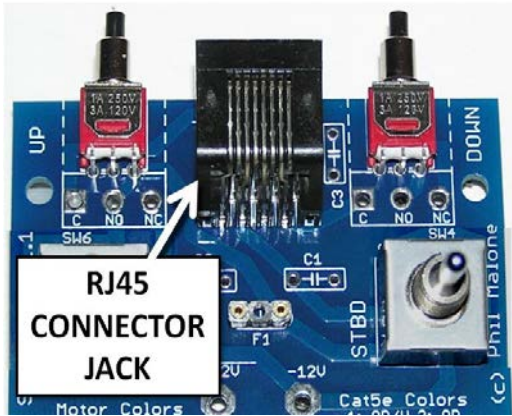

Figure 3.3-5: RJ45 Connector Jack Installed at Location "J1"
- Check the small pins on the bottom of the **RJ45 connector jack** to make sure that they are not bent, and then *carefully* put them through the PCB holes at location "J1," as shown in Figure 3.3-5. Press on the jack to snap it into place.